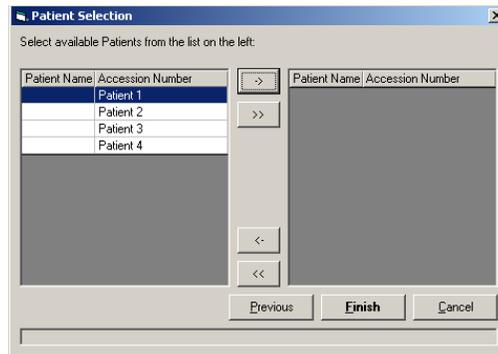

Figure 59 Patient Selection Dialog Box
3. Enter the information (in this example, a patient report) and click **Next**. Another information dialog box opens. Enter specific information for the type of report the system is compiling. Figure 59 shows a Patient Selection example.